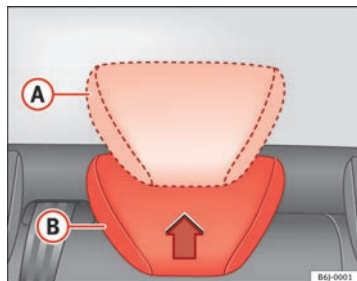

Fig. 5 Adjusting the rear head restraints
- Raised position or position for use (A) ⇒ Fig. 5. In this position, the head restraint is used normally, protecting the occupant of the rear seats, along with the rear seat belts.
- Rest position, not in use (B) ⇒ Fig. 5. This position improves the driver's rear visibility.